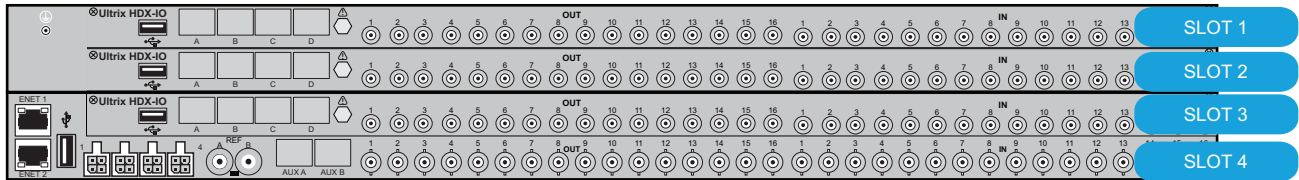

Figure 12 Slot Numbering — ULTRIX-FR2 and ULTRIX-NS-FR2
**Figure 12** outlines the numbering scheme for the ULTRIX-FR2 and ULTRIX-NS-FR2 chassis. Note that **Slot 1** is the topmost slot.